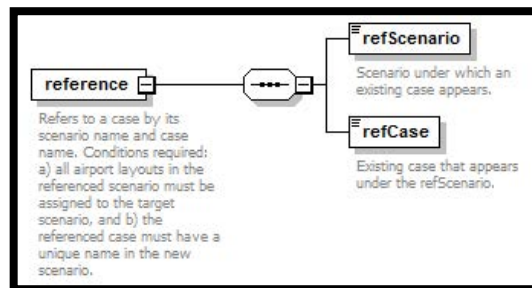

Figure 70. reference -> case and scenario
14. AsifXml/study/scenario/case/reference (Figure 70):